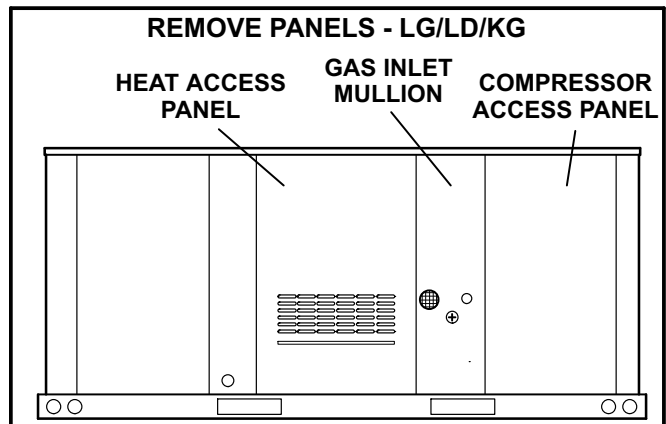

FIGURE 1
- 4- Open or remove heat and compressor access panels. See figure 1 or 2.
- 5- Remove the gas inlet mullion. See figure 1. If conduit is run to the mullion, move the mullion out of the way. Disconnect wiring and remove conduit if necessary.